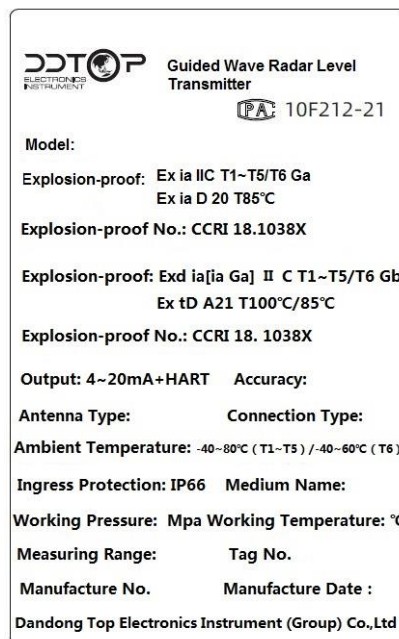

Figure 4 Product Nameplate
5.1.1 Check whether the product nameplate (Figure 4) is consistent with the supply list information